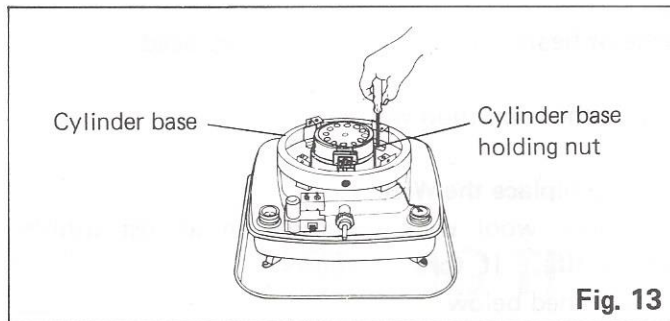

Fig. 13
4. Loosen the four cylinder base holding nuts and remove the cylinder base from the fuel tank. (Fig. 13)